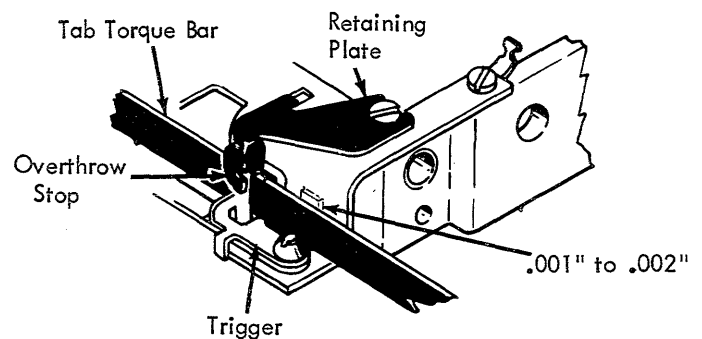

FIGURE 167. Tab Lever Overthrow Stop & Retaining Plate (New)
7. Tab Lever Overthrow Stop & Retaining Plate (Late) - (Fig. 167)
- a. Retaining Plate - with the carrier centered, adjust the retaining plate (Fig. 167) front to rear so a clearance of .001" to .002" exists between the raised area of the escapement bracket and the tab torque bar.
- b. Tab Lever Overthrow Stop - with the tab cam on its high point, form the lug on the rear of the retaining plate (Fig. 167) for a clearance of .005" to .010" between the tab lever trigger and this lug.